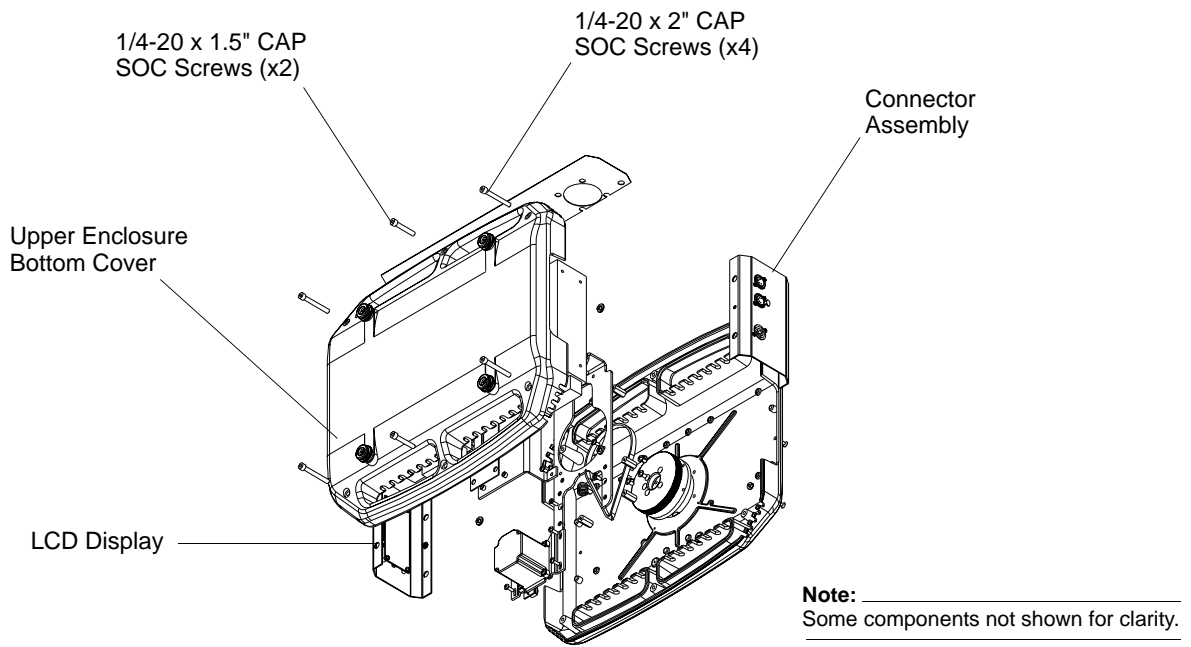

Figure 2-48: VLX Wash Upper Enclosure LCD Display Assembly
- Step 3. Using 3/16" hex wrench and as indicated in Figure 2-48, remove four 1/4-20 x 2" CAP SOC screws and two 1/4-20 x 1.5" CAP SOC screws and remove base cover.